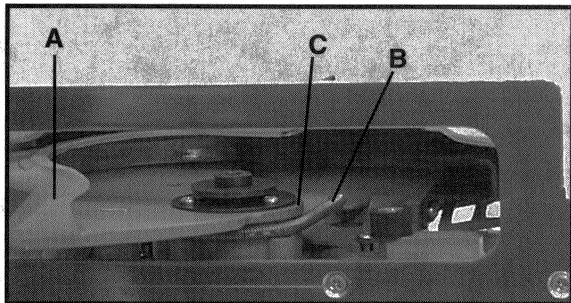

Fig. 5
**WARNING:** The telescoping guard (A) Fig. 5, is a safety device important to your protection. Every time you use the saw, see that the telescoping guard rotates freely and returns quickly and completely to its closed position. Frequently check the retracting spring (B) Fig. 5, to see that it is functional and free of foreign matter. At least once a month or when the guard is not operating properly, remove any accumulated sawdust, pitch, etc., from the area around the hub (C) of the telescoping guard, and add a few drops of light machine oil at each end of the hub. NEVER block or wedge the telescoping guard in the open position.